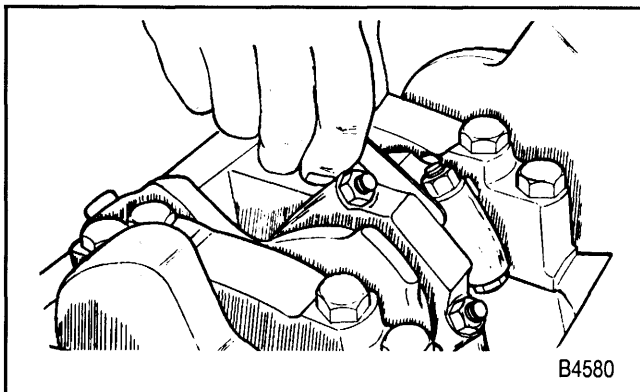

Figure 31—Checking Connecting Rod Side Clearance
- Connecting rod side clearance. Use a feeler gage between the connecting rod and crankshaft (figure 31). The correct clearance is 0.17-0.63 mm (0.0067-0.0248 inch).